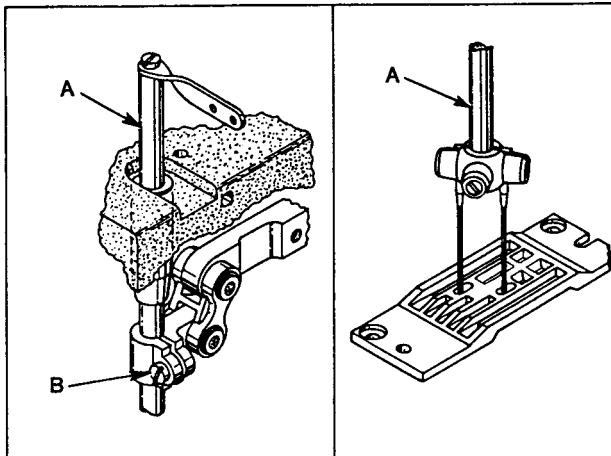

Fig. 3
Insert a new set of needles (type and size required). Turn handwheel to bring needle bar (A, Fig. 3) down to ensure that needles center in needle holes of throat plate as shown in Fig. 3. Adjustment can be made by loosening screw (B) slightly, allowing needle bar to be turned as required. Tighten clamp screw.
The height of the needle is correct when the top of its eye is 1/64 to 1/32 inch (.4 - .8mm) below the underside of the looper, when the looper point flush with the left side of the needle as shown in Fig. 5. If adjustment is necessary, loosen screw (B, Fig. 3) and move needle bar (A) up or down as required and retighten screw. Care should be taken not to disturb alignment of needle bar when moving the needle bar either up or down. The descending needles must be deflected alike on the back of the loopers.